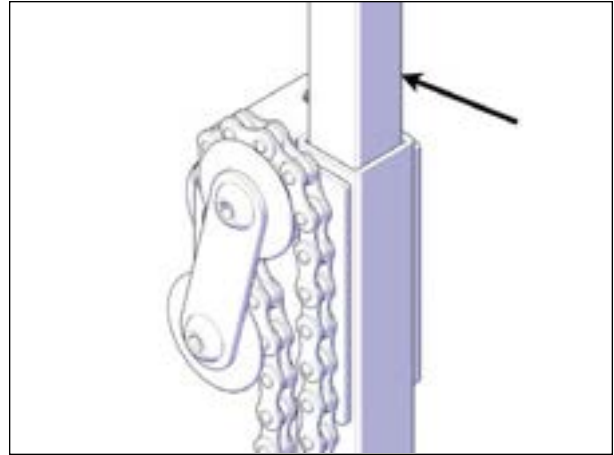

FIGURE 92: SLIDING PARTS GREASING
8. Spray grease on all the sliding parts and mechanical components for all four jacks see Figure 92.